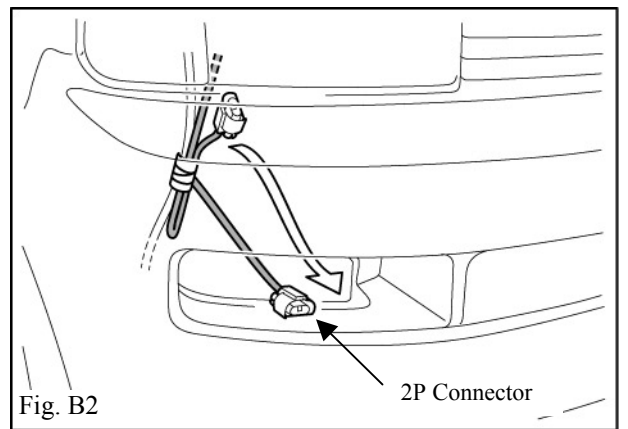

Fig. B2
3. Remove the 2P connector secured with vehicle wire harness as shown in (Fig. B2). Pull the 2P connector harness through opening.